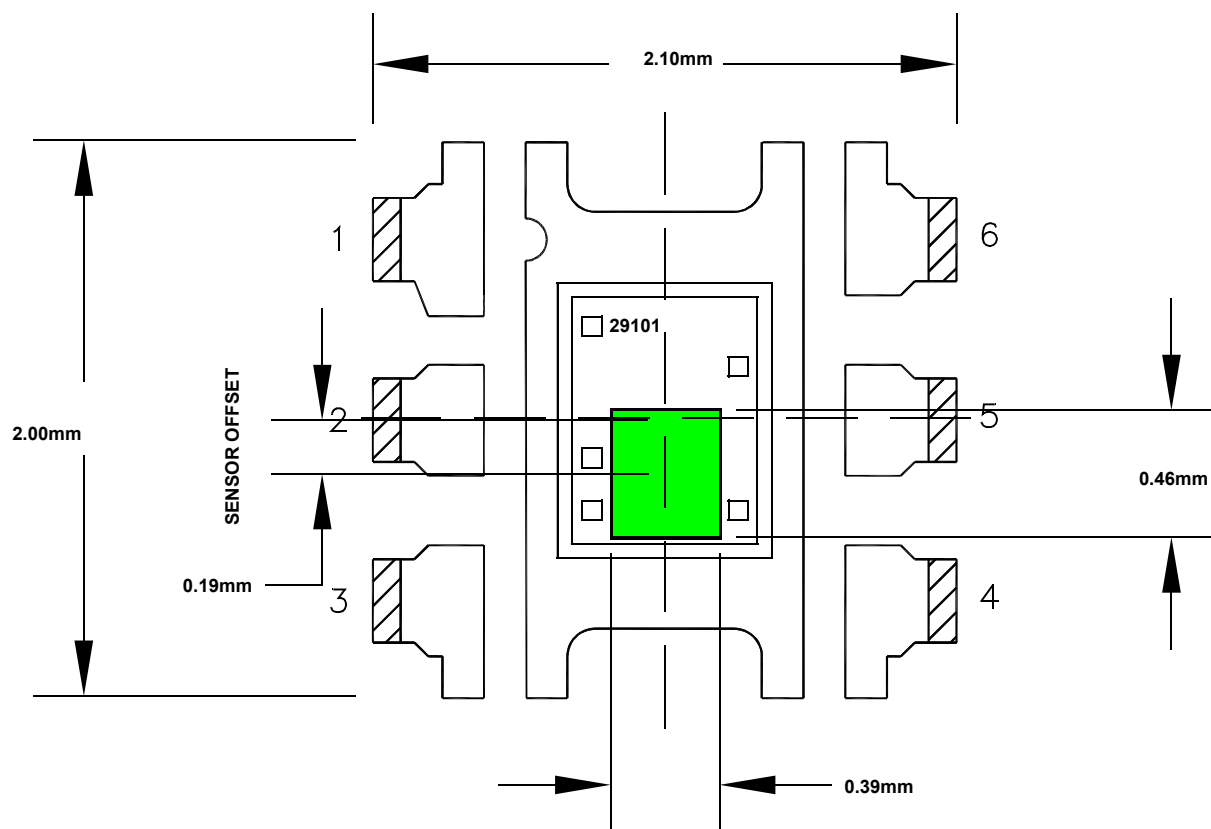

FIGURE 17. 6 LD ODFN SENSOR LOCATION OUTLINE
The green area in Figure 17 shows the optical sensor location outline of ISL29101. Along the pinout direction, the center line (CL) of the sensor coincides with that of the packaging. The sensor width in this direction is 0.39mm. Perpendicular to the pin-out direction, the CL of the sensor has an 0.19mm offset from the CL of packaging away from pin-1. The sensor width in this direction is 0.46mm.